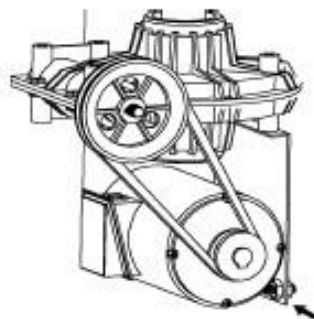

Figure 21
- Tight the screws for the belt tension (figure 21 below).